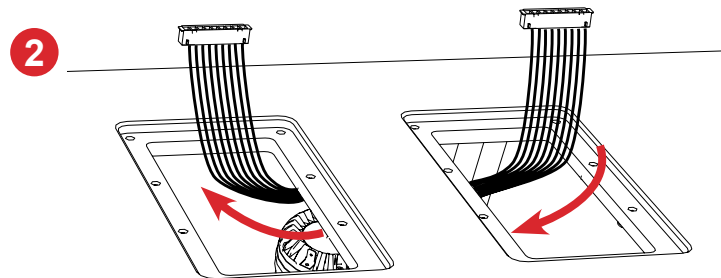

Figure 10. Thread harness through openings
2. Thread the harness through the cabinet and out the other hole. (Figure 10)